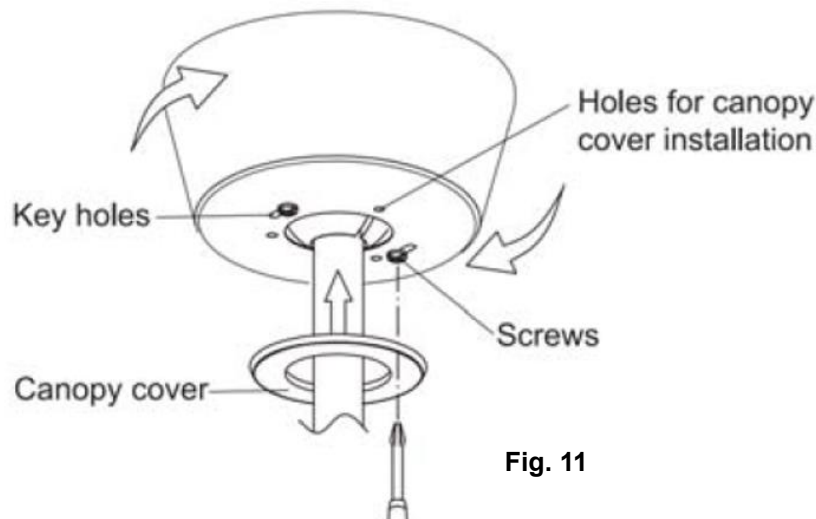

Fig. 11
- Loosen the two screws at the bottom of the mounting bracket by half a thread. (Fig.11)
- Slide the canopy up to the mounting bracket and align the key holes on the canopy with the screws on the mounting bracket. Turn the canopy until it locks into place with the narrow section of the key holes and secure it by tightening the two screws. Avoid damaging the electrical wiring prepared previously. (Fig.11)
- Attach the canopy cover onto the canopy by pushing the lugs into the holes. (Fig.11)